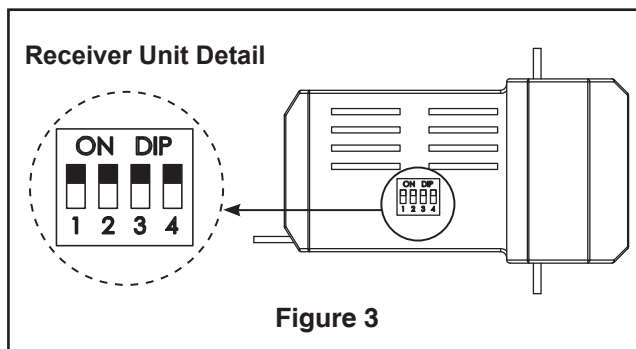

Figure 3
- 2. To set the receiver unit code, slide code switches to the same positions as set on your transmitter (Figure 3).